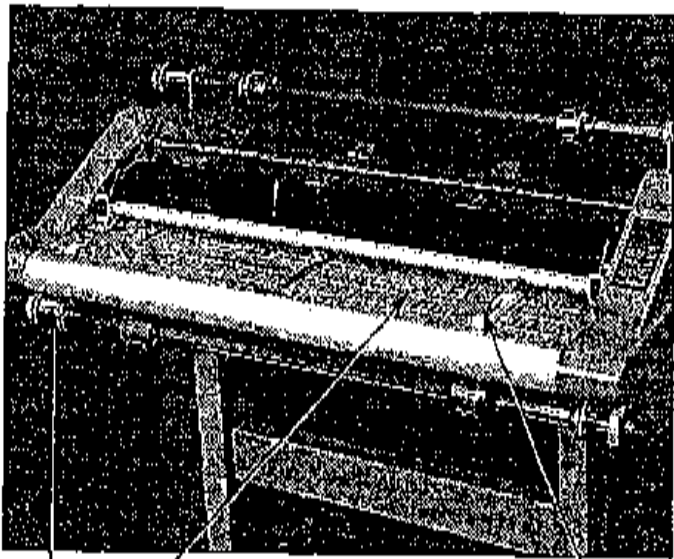

Fig. 3
D. FEED TABLE: The Feed Table, Figure 3, is used to position items for lamination. The laminator will operate only when the Feed Table and Feed Table Latch are properly installed. The table cannot be removed without retracting the latch to the right while lifting the table upwards and away from the laminator.
E. TABLE INTERLOCK LATCH: Used to lock the Feed Table into position and activate an interlock switch. The interlock latch is located on the left underside of the Feed Table, (Figure 3). The laminator will not operate when the table is removed and/or the interlock latch is retracted.
F. FEED GUIDES: The Feed Guides, Figure 3, permit alignment of the item(s) to be laminated. To position the adjustable guides, loosen the knob on the top of the guide(s), slide them to the desired position and tighten the knobs to secure the Feed Guide(s) in place. The Feed Guides are used to keep longer items straight. The Center Feed Guide may also be used to feed smaller items side by side by positioning the guide in the center of the Feed Table and placing smaller items against each side of the guide as they are being introduced into the nip rollers.
Refer to Figure 3 and follow the procedure to remove the feed table: